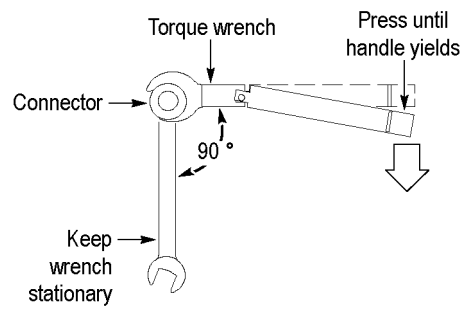

Figure 1: Using a torque wrench to tighten connectors
5. Position the two wrenches within 90 degrees of each other before applying force. (See Figure 1.)